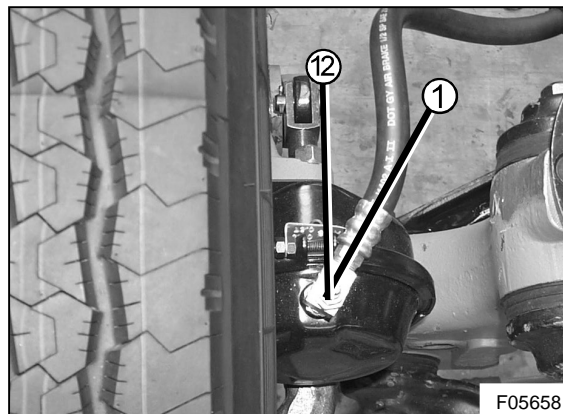

Figure 20: Left hand brake chamber tee connector in 1 o'clock position.
- Repeat steps 1 through 6 as per right hand brake hose. Adjust the tee connector to point in the 1 o'clock direction (see Figure 20).